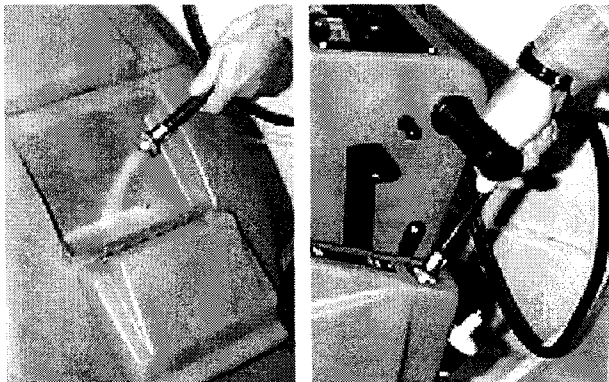

FIG. 10
3. Open solution fill door at front of machine and fill solution tank with 17 gallons (64L) of clean water (140°F/ 60°C maximum temperature). Or you can use the rear fill port to fill solution tank. Twist off plug and insert hose to fill. The clear tube below the fill port has 5 gallon (19L) increment markers to indicate amount of water in tank (Figure 10).